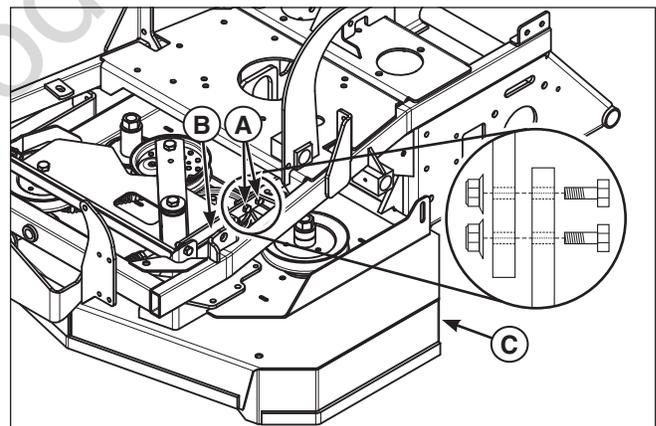

Figure 54. Disconnecting the Idler Arm Mount Plate
6. Loosen and remove the hardware (**A, Figure 54**) that secures the idler arm mount plate (**B**) to the mower deck (**C**).
5. Connect the idler mount plate (**B, Figure 54**) to the mower deck and secure using the 5/16" hardware (**A**).